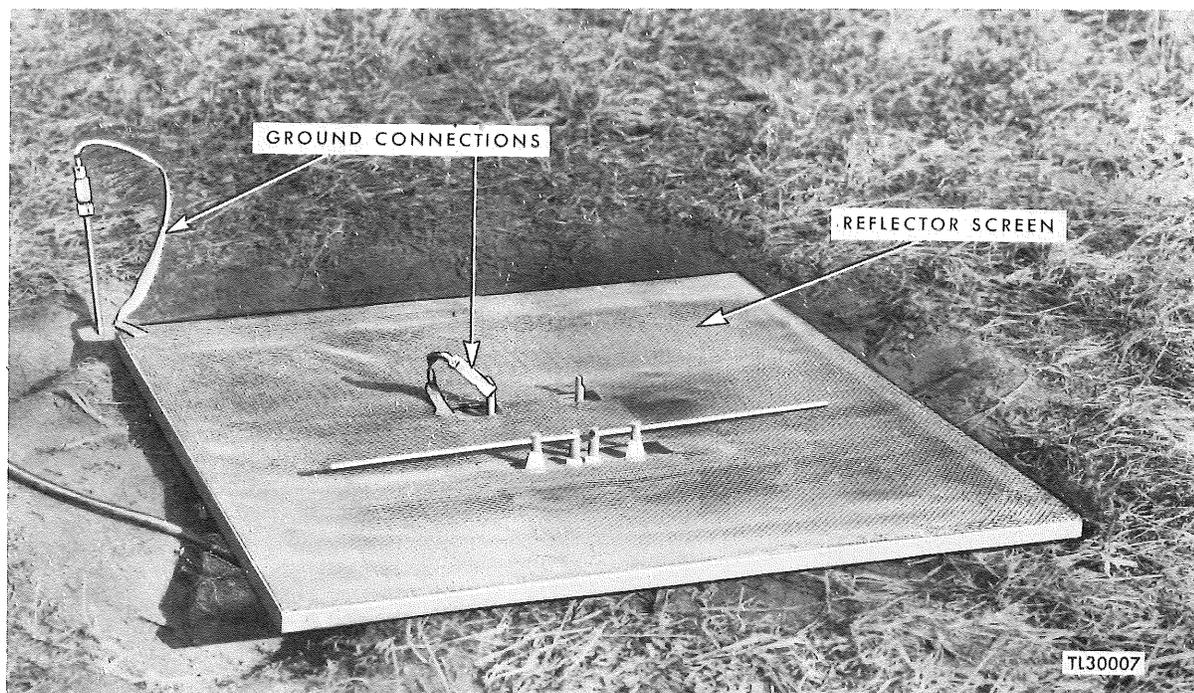

Figure 62. Arrangement of screen on buried tweeter.
a. Screen M-352 is a wire-mesh screen in a wooden frame. It is used as a shield and reflector when the buried-tweeter method is used to align the antennas of Radio Set SCR-268-(*). The arrangement of the screen on Modulator BC-423 (tweeter) is shown in figure 62.
d. Remove both halves of the tweeter dipole, and place the screen flat on the tweeter case and on the earth. Replace the dipole so that both halves project above the screen without touching it. Make sure that the wooden frame on the tweeter screen rests *squarely* on the tweeter case. Connect the tweeter case to the screen and the screen to a metal ground stake placed behind the tweeter as shown in figure 62.